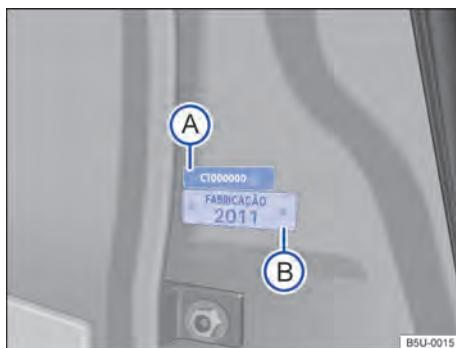

Fig. 211 On the front right door pillar: vehicle partial identification number label **(A)** and manufacturing year plate **(B)**.
The plates (VIS) are located on the lower area of the front right door pillar → **Fig. 211 (A)** and in the engine compartment on the driver side, in the suspension strut. These plates are destroyed when removed.
The manufacturing year identification plate is located on the lower area of the front right door pillar → Fig. 211 . This plate is destroyed when removed.